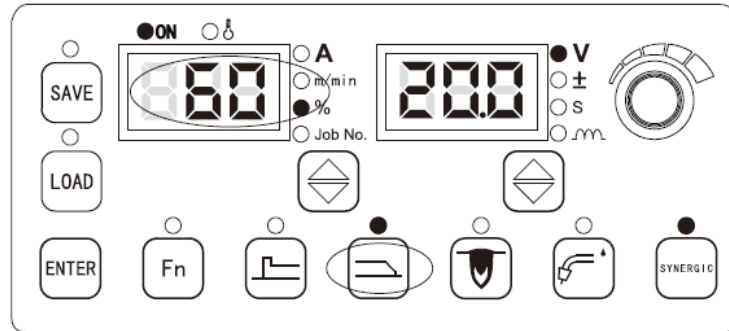

Figure 3-8 Setting the wire inching speed percentage for ending arc
2. When the % indicator is on and the left LED screen flashes, use the knob on the control panel to set the wire inching speed percentage for ending arc. Then, press the **ENTER**  button. See Figure 3-8.